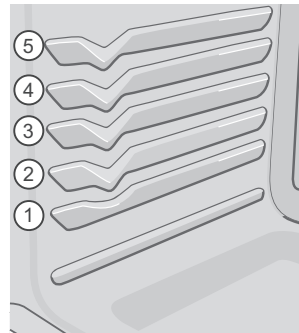

Figure 2: Rack positions
- For best results when baking cakes using two oven racks, place racks in positions 2 and 4 (See Figure 2).